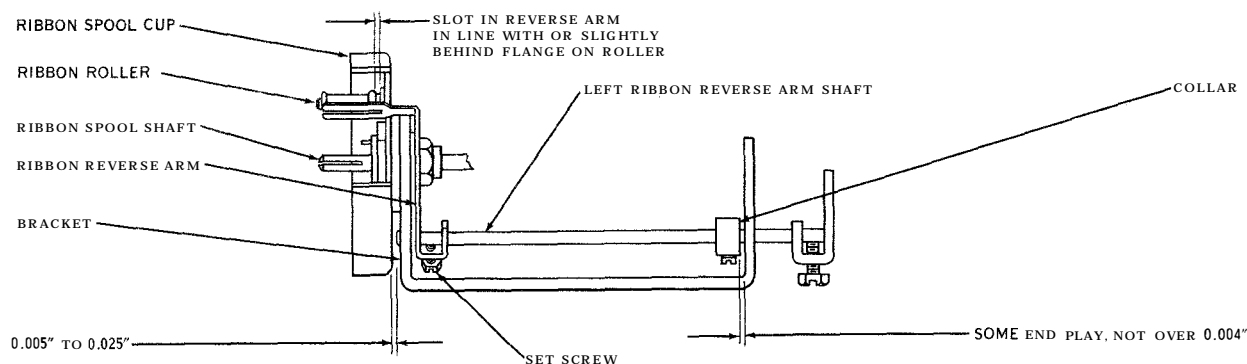

Figure 7-44. Ribbon Reverse Arm Shaft
(37) **LEFT RIBBON REVERSE ARM SHAFT.** (See figure 7-44.)—The front end of the left ribbon reverse arm shaft should clear the left ribbon spool cup by 0.005 to 0.025 inch. To check, hold the ribbon reverse arm against the bracket to make this clearance a
(38) **RIGHT RIBBON REVERSE ARM SHAFT.** (See figure 7-44.)—There should be some clearance, not more than 0.004 inch, between the front end of the right ribbon reverse arm shaft and the ribbon spool cup when the play of the shaft is taken up in a direction to make this clearance a maximum. To adjust, position the collar on the shaft. Hold the collar in position and tighten the setscrew. Position the collar so that the setscrew is accessible.